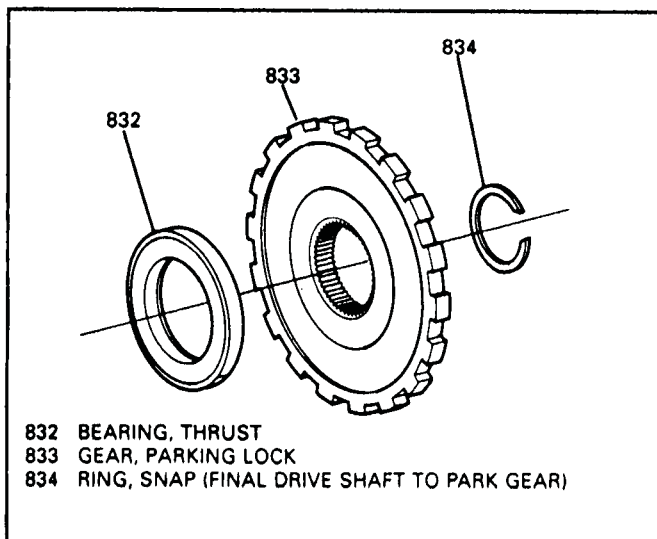

Figure 72
2. Remove snap ring (834) from final drive sun gear shaft (See Figure 72).
3. Remove park gear (833) from final drive sun gear shaft (See Figure 72).
24. Install thrust bearing, see Figure 72.
25. Install parking gear, shown Figure 72.